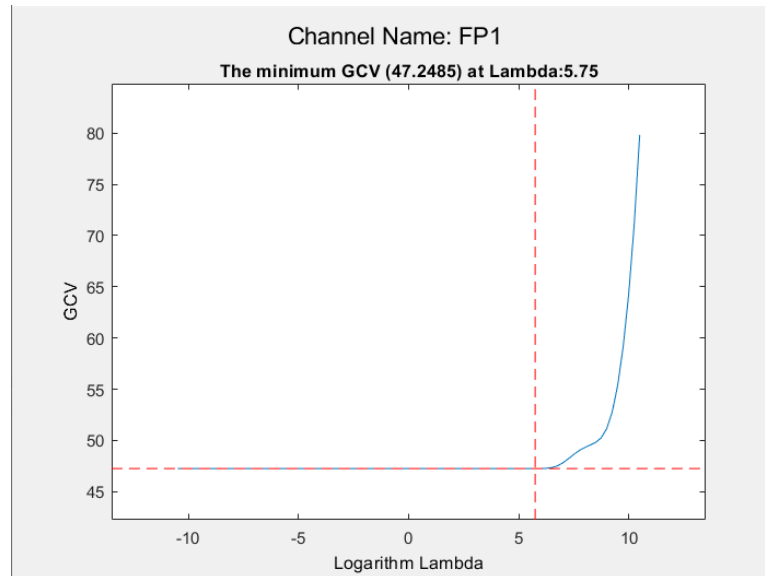

Figure 8 – The GCV plot, the minimum GCV is 47.2485 that reaches in logarithm lambda equals 5.75. (Top of the plot log lambda)
- 1- Figure 8. It shows the GCV values for different lambda terms and the minimum GCV is shown with a dotted line.